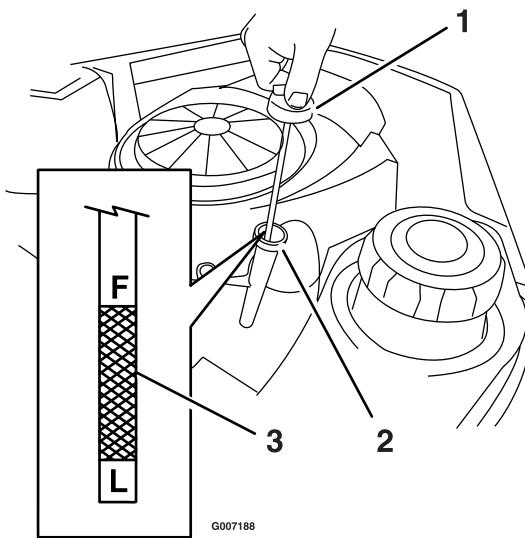
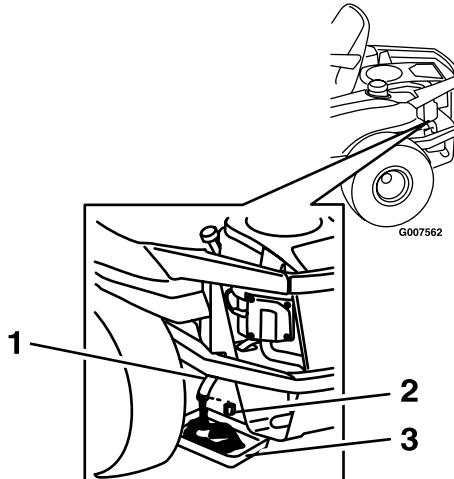

Figure 25
Figure 27
4. Pull and remove the oil fill cap/dipstick; wipe oil off. Reinsert the dipstick and push firmly into place (Figure 25).
5. Clean the area around the drain plug and on the machine frame. Place a pan underneath machine directly below the drain hole in the frame as shown in Figure 27
6. Remove the oil drain plug (Figure 27). Remove the oil fill cap/dipstick (Figure 25).
9. When the oil has drained completely, install the oil drain plug. Tighten the plug to 14 N·m (125 in-lb) torque. Wipe up any excess oil on the frame (Figure 27).
11. Install the replacement oil filter to the mounting pad. Turn the oil filter clockwise until the rubber gasket contacts the pad, then tighten the filter an additional 1/2 to 3/4 turn (Figure 27).
14. Check the oil level (Figure 25); refer to the Checking the Oil Level section.